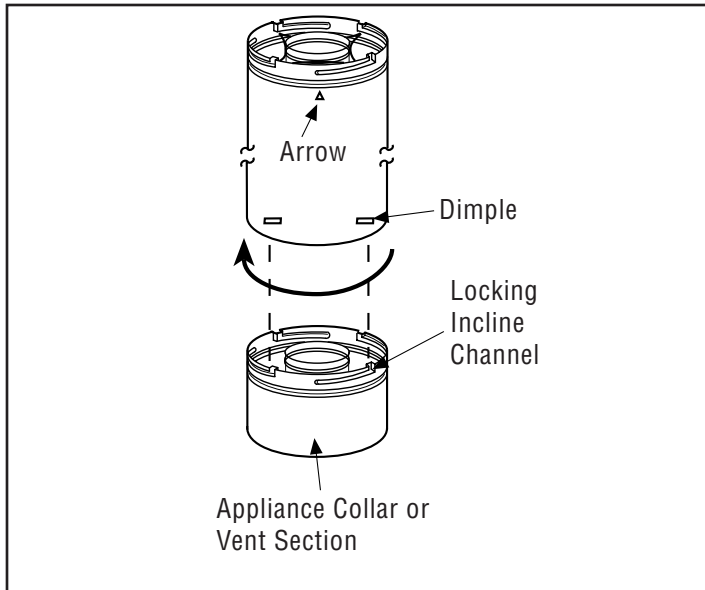
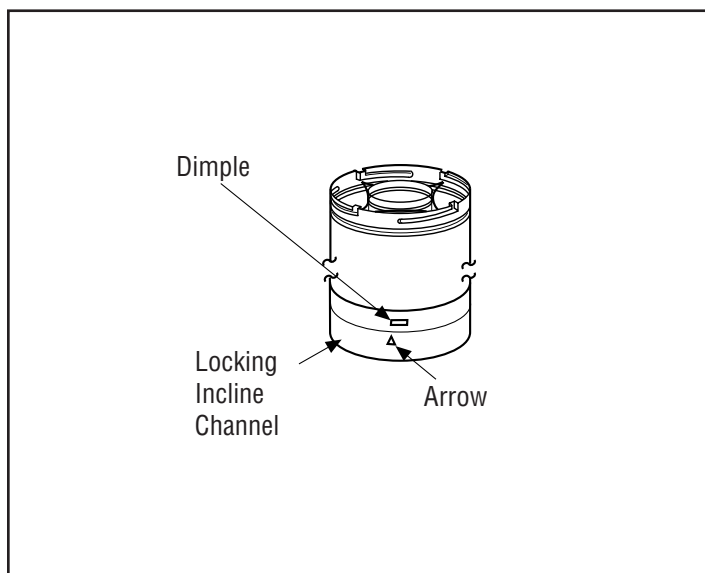

Figure 11 - Connecting vent components
Figure 12 - Connected vent components
Direct-vent system components are unitized concentric pipe components featuring positive twist lock connections (Figure 11 and Figure 12). All of the fireplaces covered in this document are fitted with collars having locking inclined channels. The dimpled end of the vent components fit over the fireplace/vent collar to create the positive twist lock connection.
1. Align the dimpled end over the collar, adjusting the radial alignment until the four (4) locking dimples are aligned with the inlet of the four (4) inclined channels on the collar (Figure 11).
3. If desired, a #6 x 1/2" screw can be used at the joint, but is not required as the pipe will securely lock when twisted (Figure 12).